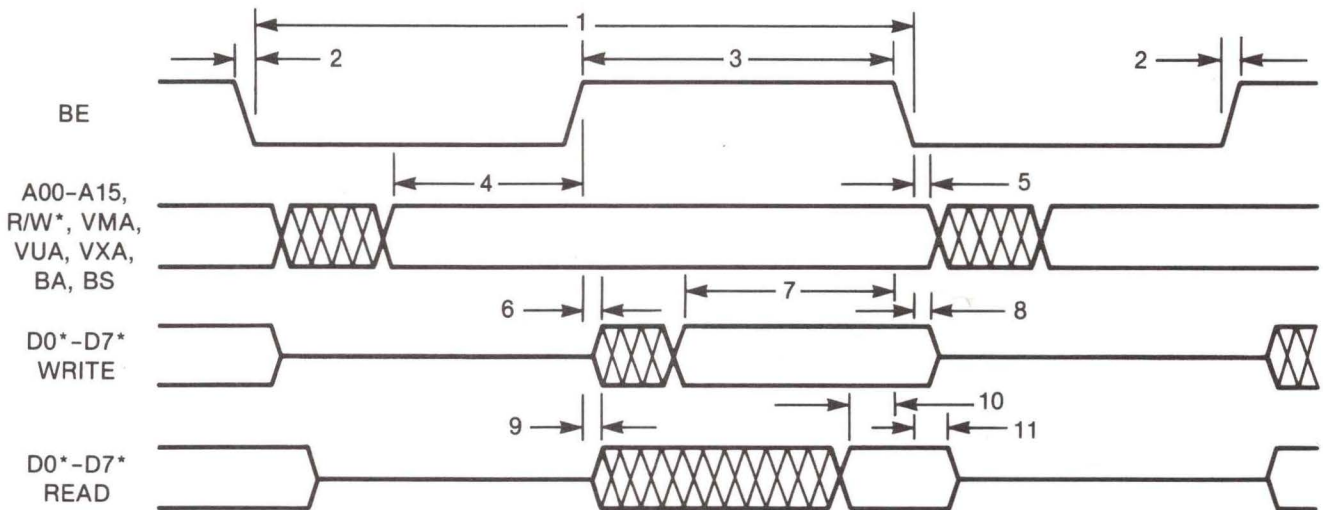

FIGURE A-1. EXORbus Specification Timing Diagram
Timing is presented with respect to the bus. The time relationship between the bus signals is shown in Figure A-1, while the minimum and maximum time values for the signals are listed in Table A-3 (for 1.0 MHz and 2.0 MHz operation). All of these time values are referenced to the leading edge or trailing edge of Bus Enable (BE). Time relationships not specified within this table can be readily calculated from the information provided.